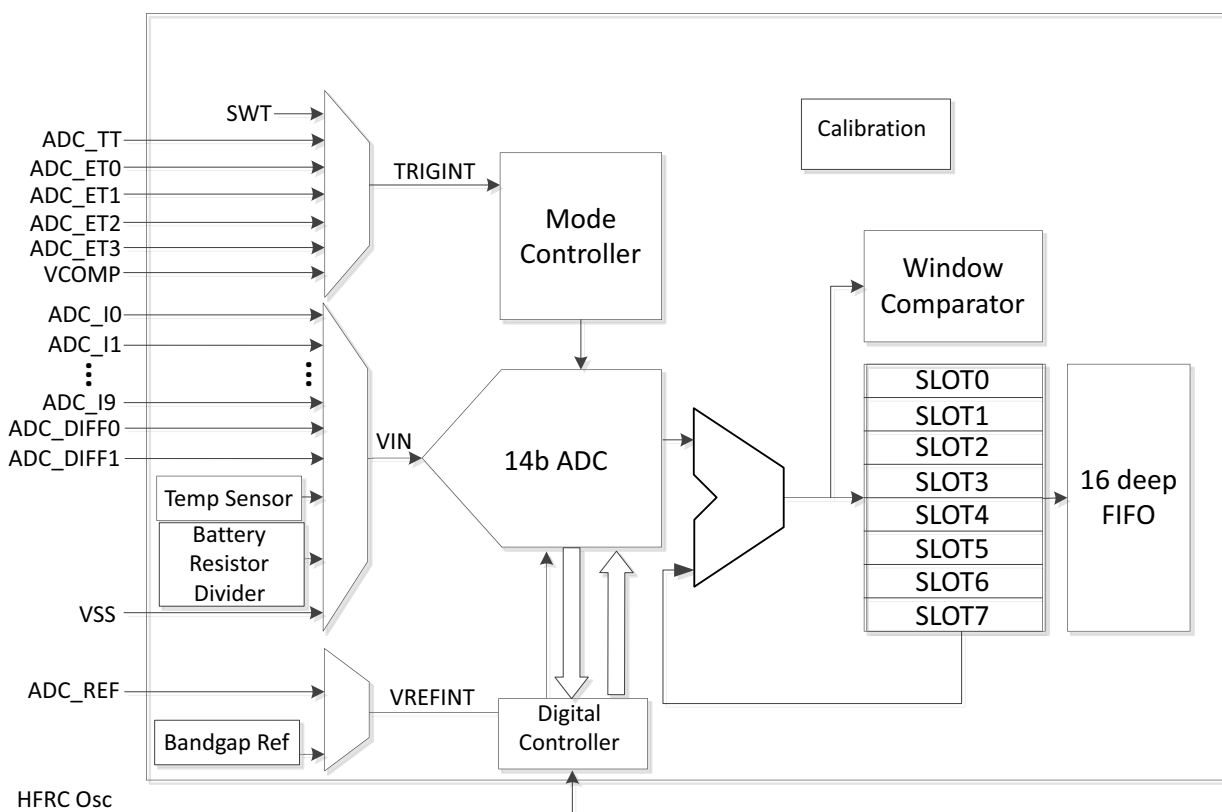

Figure 62. Block Diagram for ADC and Temperature Sensor
The Analog-to-Digital Converter (ADC) and Temperature Sensor Module includes a single-ended 14 bit multi-channel Successive Approximation Register (SAR) ADC as shown in Figure 62.
As shown in Figure 62, the ADC block contains a 15 channel analog multiplexer on the input port to the analog to digital converter. Twelve (12) of the GPIO pins on the Apollo2 MCU can be selected as analog inputs to the ADC through a combination of settings in the PAD configuration registers in the GPIO block and settings in the configuration registers described below.